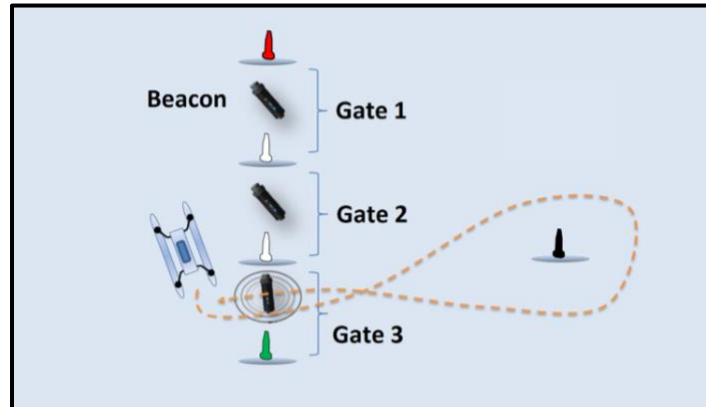

Figure 4: Example Entrance and Exit Gate Task
This task requires the AMS to enter and exit the course through the gates. The three gates are marked by four colored buoys (see Figure 4); in between each set of buoys is an underwater beacon. The AMS should detect the beacon and enter the course through those gates before proceeding to other tasks. The complexity of this task is raised between each of the rounds, incorporating other task's elements.
- Gate 3 is bounded by a white buoy and a green buoy (see Figure 4).